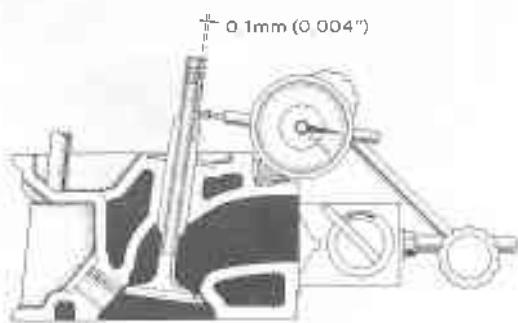

Fig. 3-17 Easy Method
- To check the clearance easily, insert the valve into the guide bushing, and position a dial gauge as shown in figure 3-17. At this time, the plunger of the dial gauge should be placed near the upper end of the guide bushing.